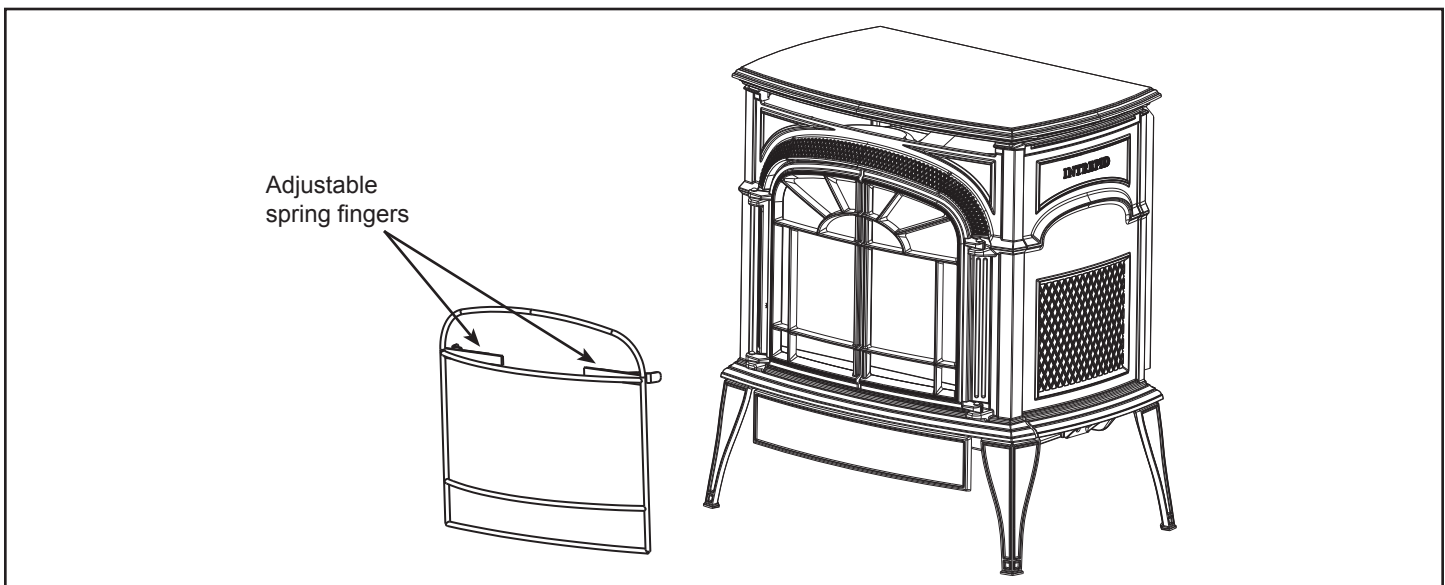

Figure 60 - Safety Barrier Installation
2. Align screen on stove front and adjust spring fingers as needed. Press into place until spring fingers engage. Figure 60